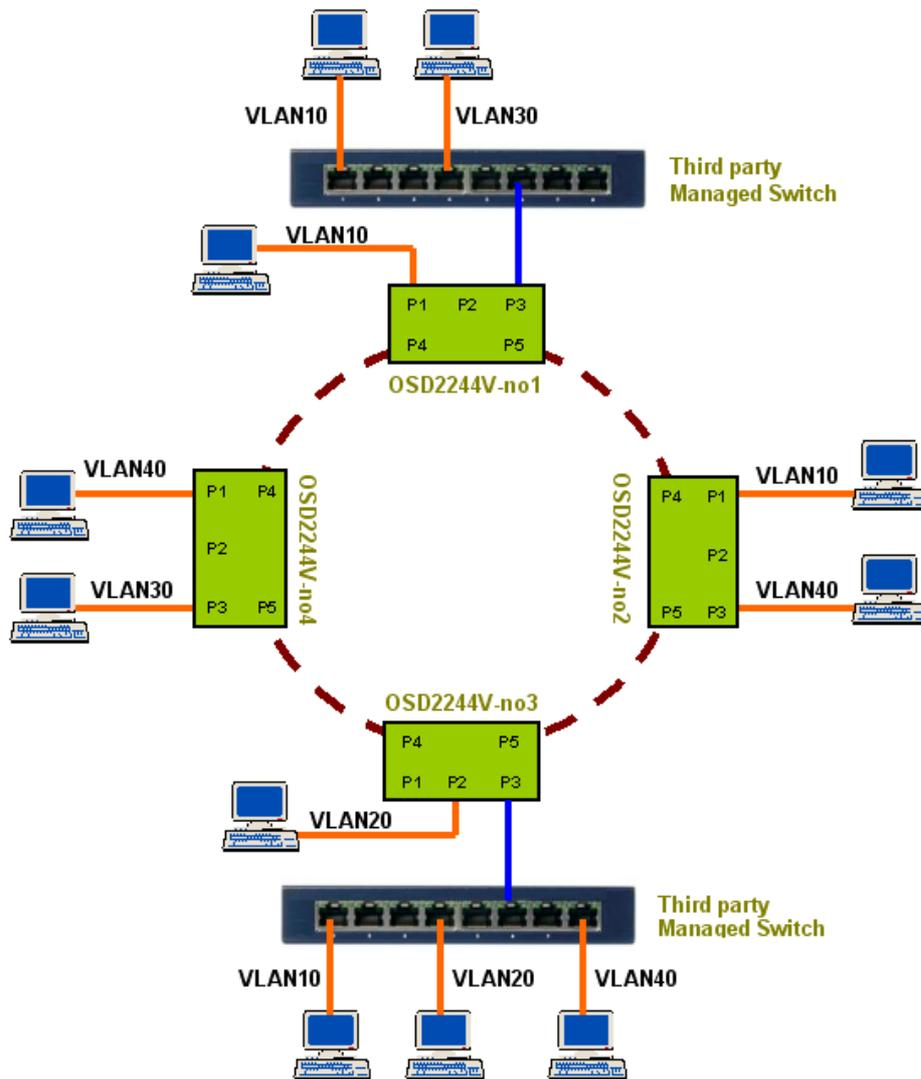

FIGURE 34: VLAN TOPOLOGY DIAGRAM EXAMPLE
- ⚠ It is also equally important to understand the topology and network the user is attempting to achieve. A topology diagram is useful when setting the system up such as shown in Figure 34.